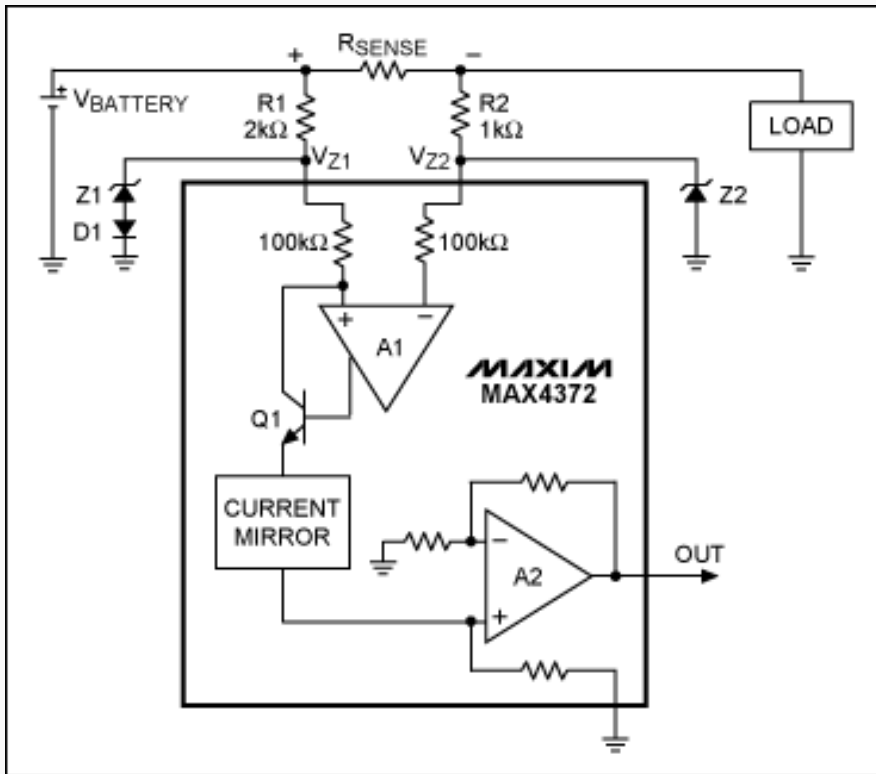

Figure 1. This current-sense amplifier has protection circuitry (upper circuit components) suitable for common-mode voltages above 30V.
**Figure 1** shows an example of a protection circuit, which is composed of zener diodes Z1 and Z2, resistors R1 and R2, and diode D1. The common-mode voltage range of the MAX4372 amplifier is 0 to 28V, which is more than sufficient for measuring automotive battery voltages that vary from 6V to 18V. Load-dump voltages, however, can reach 35V and persist for 0.5 seconds, which is well over the amplifier's 30V absolute maximum rating for input voltage. The amplifier must therefore be well-protected externally.